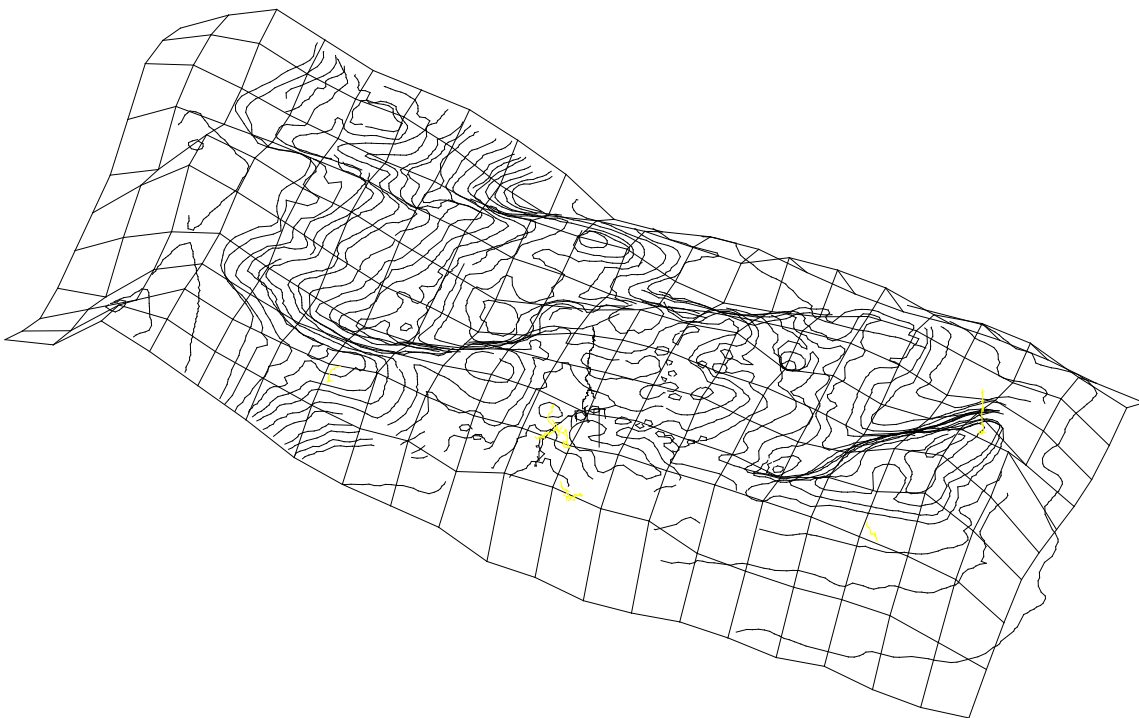
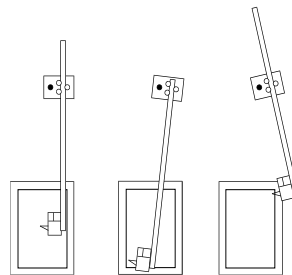

Figure 5 *Surface mesh, contours and caves of Migovec plateau, Slovenia*
Figure 7 *‘Pivot and slide’ type motion*
This will produce a contour map, shown in Figure 5 combined with the surface mesh produced in Method 1. In this case, AutoCAD v. 10 (Autodesk Inc.) was used. Some shareware alternatives may also be suitableⁱ. Depending on the output options of the software, it may be possible to load the contours into Cave Rotator.
- c) Set up your mouse with a linear motion arrangement, ideally as shown in Figure 7. This could be achieved using a parallel motion drawing board. In any case, the idea is to maintain the orientation of the mouse, so that motions are recorded consistently. The mouse should be adjusted (rotated) until a vertical motion of the mouse results in vertical movement of the cursor on the screen. Note that a small pointer is attached to the side of the mouse: this is best made of transparent plastic.
If a full linear motion device is not available, a simple ‘pivot and slide’ arrangement can be improvised, as shown in Figure 7. This method was used to create the contours shown in Figure 5. It will be seen that the further that the pivot is from the mouse, the smaller will be the errors caused by the rotation of the mouse.